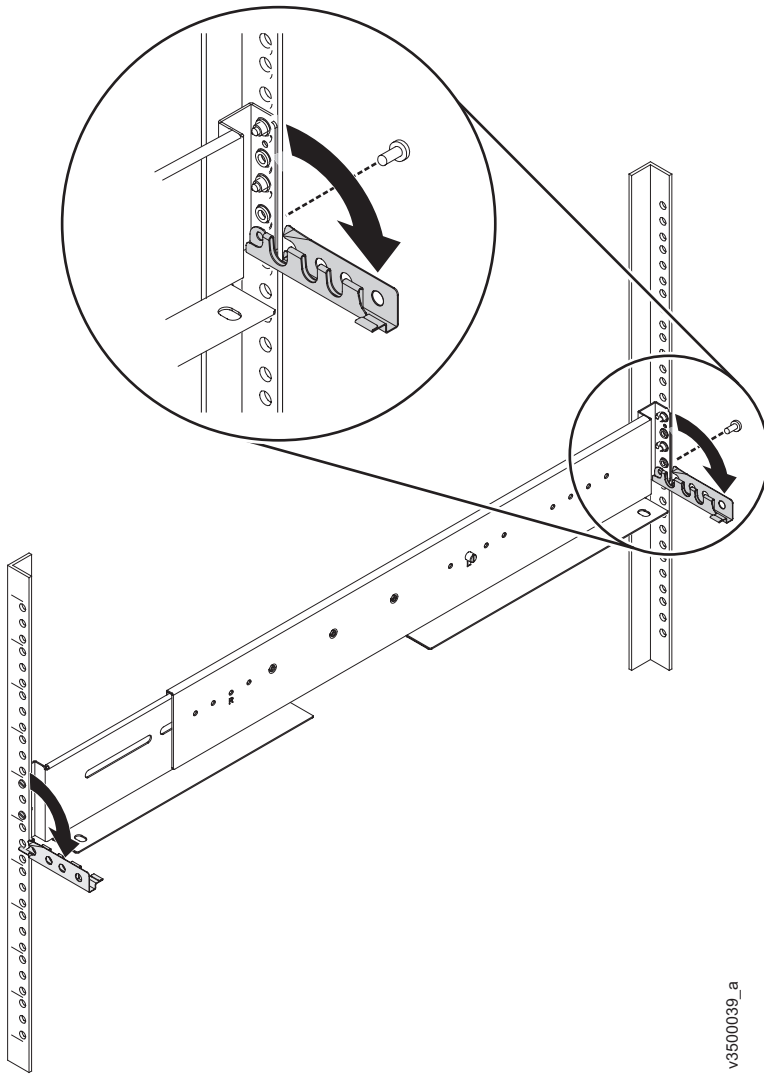

Figure 111. Opening rear hinge bracket of mounting rail
9. At the rear of the rack, remove the securing M5 screw from the bottom hole of the rear bracket of the rail, then open the rear hinge bracket (Figure 111 on page 363).